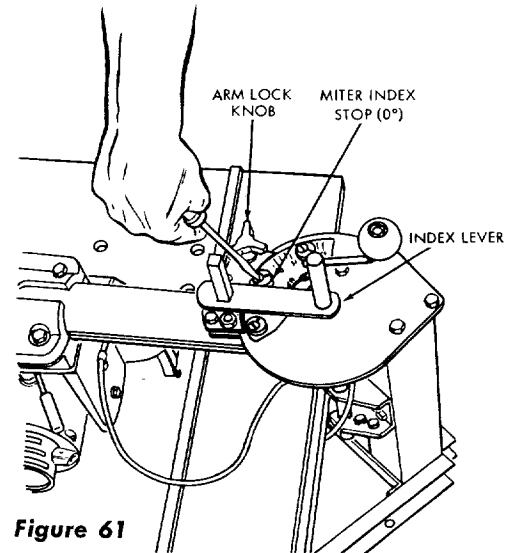

Figure 61
- (10) Rotate the screw in the 0° miter index stop (figure 61) clockwise. This should rotate the eccentric portion of the stop until it is tight against the index lever where it will stop and permit the screw to further rotate until tight.